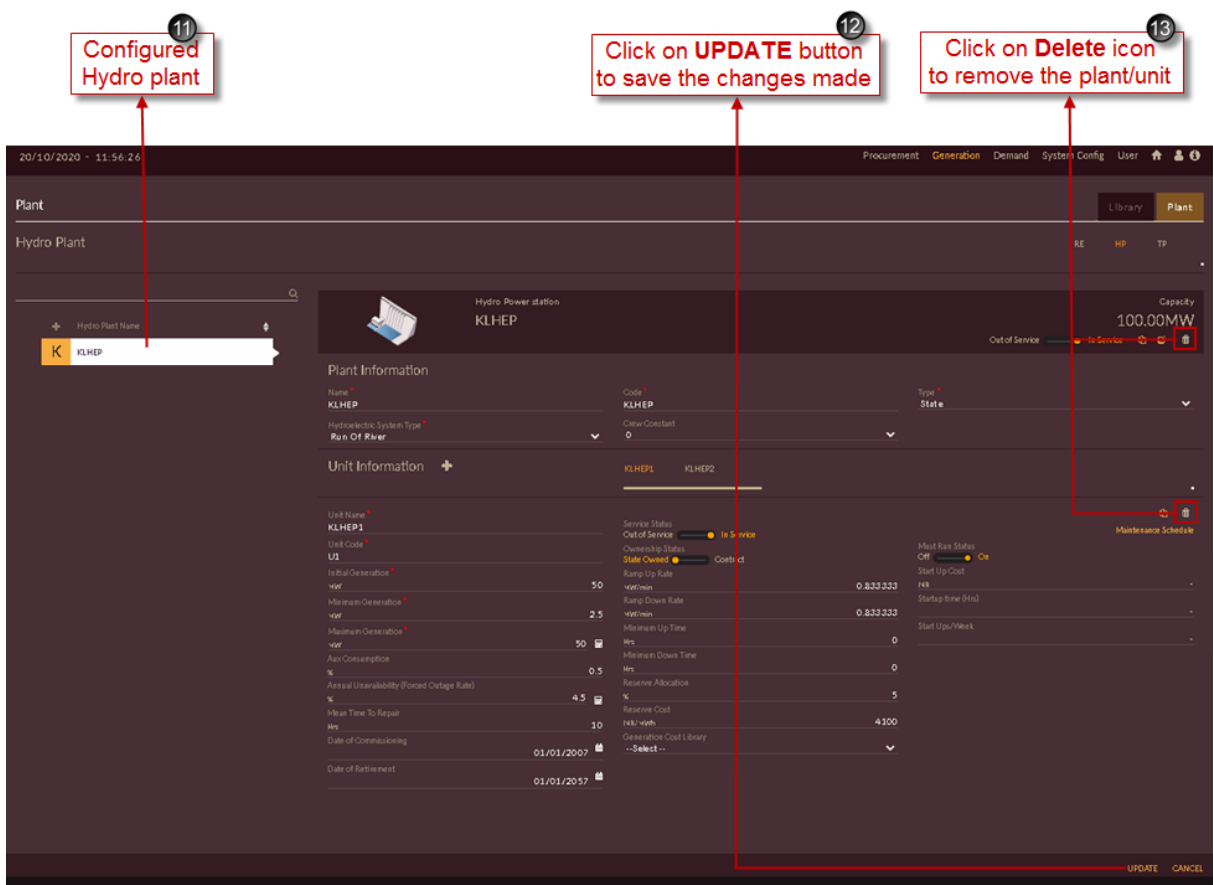

Figure 150. Updated Hydro Plant
11. Configured Hydro plant list will appear on left of the page as shown in Figure 150.